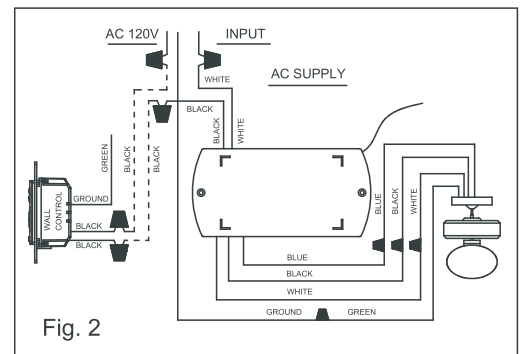

Fig. 2
**Step 2.** Make the electrical connections as shown in Fig.2. If your outlet box has a ground wire (Green or Bare Copper) connect the Wall Transmitter's ground wire to it. Otherwise connect the Wall Transmitter's wire directly to one of the screws from the outlet box. Secure all wire connections with the plastic wire nuts provided.
Do not use fan speed control in canopies where the Mounting is not as described in Fig2 of the installation instructions.